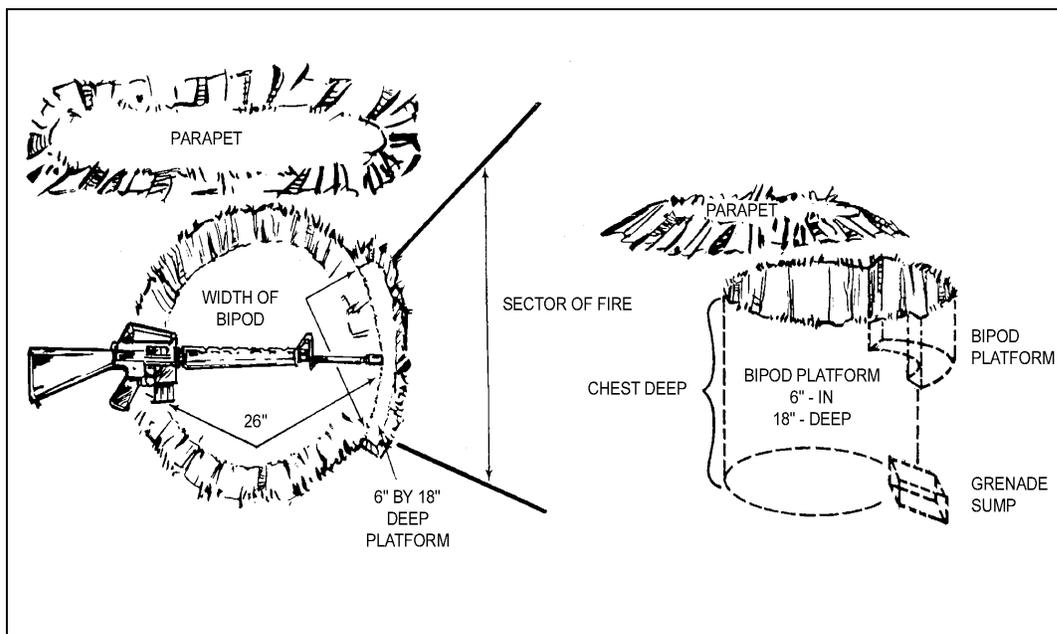
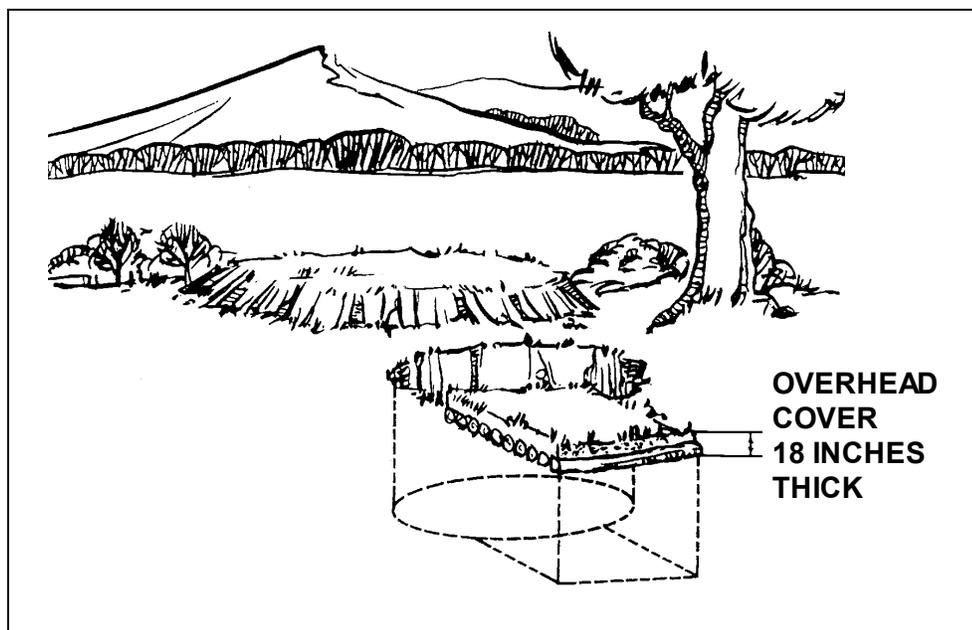

Figure 8-4. Construction of a one-person fighting position.
Figure 8-5. Construction of overhead cover.
(1) When the gunner fires from an improved position, the muzzle end of the launcher must extend 15 centimeters (6 inches) beyond the front of the hole. The rear of the launcher must extend out over the back of the hole. As the missile leaves the launcher, the unfolding stabilizing fins require at least 15 centimeters (6 inches) of clearance above ground. The position should offer protection to the front (a parapet) or other natural or man-made cover.
(2) Gunners clear the ground in front of and behind the position. They remove rocks, sand, and debris. This prevents a dust cloud from forming when the gunner fires. Dust would obscures a gunner's vision and marks the location for enemy observers. When the gunner must fire in only one direction, a one-person fighting position works best (Figure 8-4, following; and Figure 8-5, page 8-5).